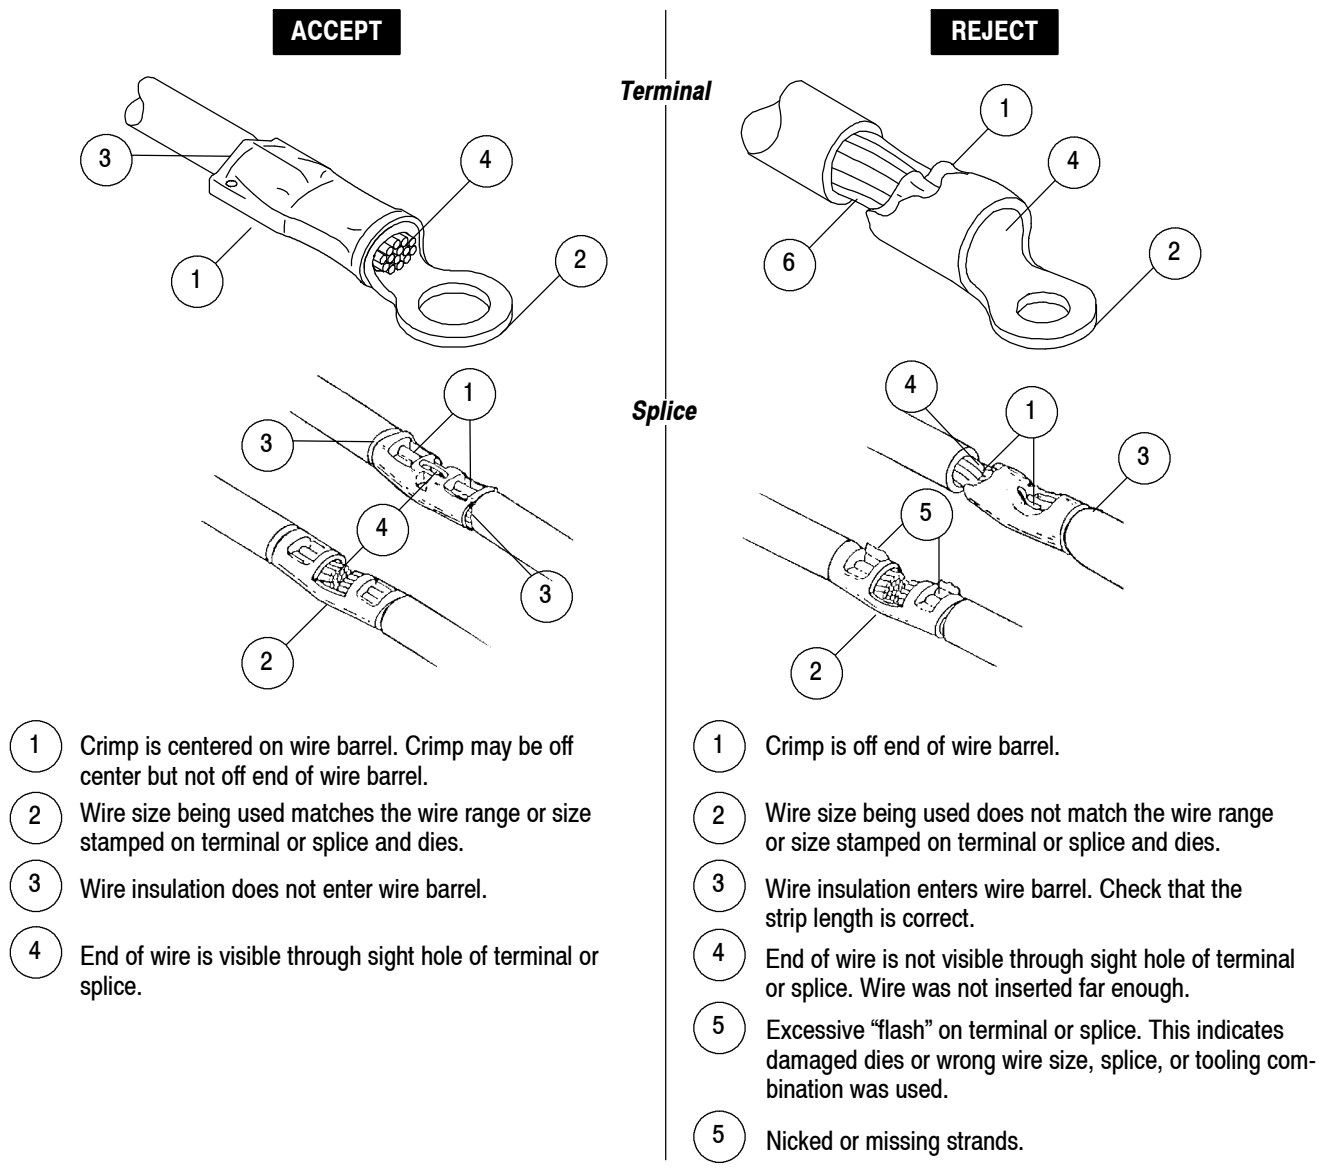

Figure 5
9. Inspect the crimp according to Figure 5. This is included as an aid to the tool operator ONLY. It is not intended to serve as a quality control inspection for qualifying finished crimps on these terminals and splices. Use only terminals or splices that meet the conditions shown in the ACCEPT column. Terminals and splices displaying the features shown in the REJECT column can be avoided by careful use of these instructions and by performing the maintenance and inspection procedures described in Section 5.